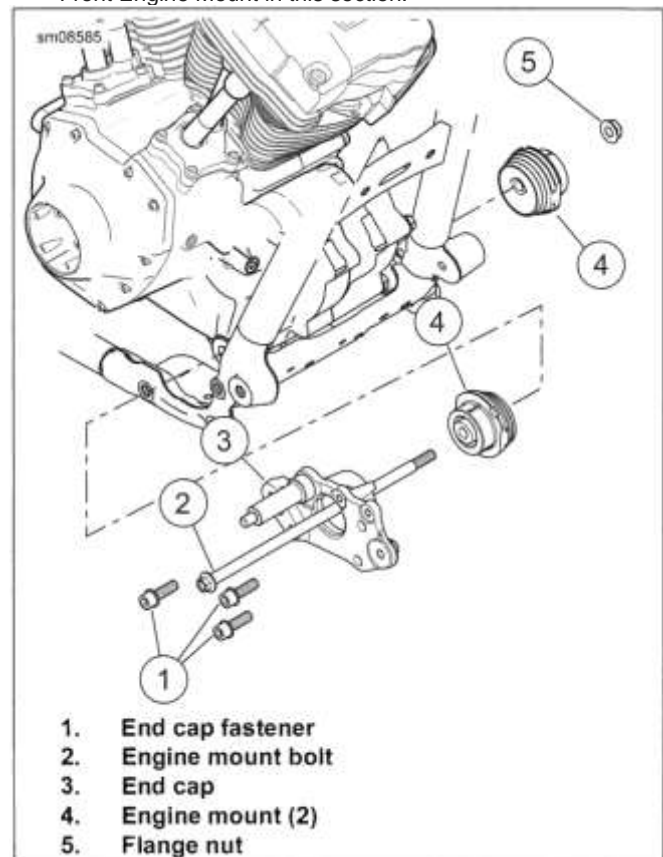

Figure 4-15. Front Engine Mount
2. See Figure 4-15. Remove engine mount assembly.
- a. Remove end cap fasteners (1).
- b. Remove flange nut (5).
- c. Remove engine mount bolt (2) with end cap (3).
3. Remove right engine mount (4).
4. Remove left engine mount (4).
2. See Figure 4-15. Install left mount (4).
3. Install right engine mount (4).
- a. Assemble engine mount bolt (2), end cap (3) and engine mount (4).
- e. Start fasteners (1).
- f. Install flange nut (5). Tighten.